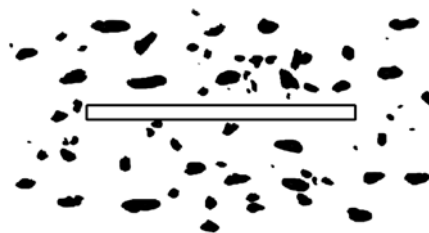

Figure 3
6. When the top plate comes into contact with the 1/8in rail, check to see if the soil is at the Plastic Limit. For an example of the Plastic Limit, see Figure 3. (Be sure to check all Plastic Limit definitions with the procedure.)